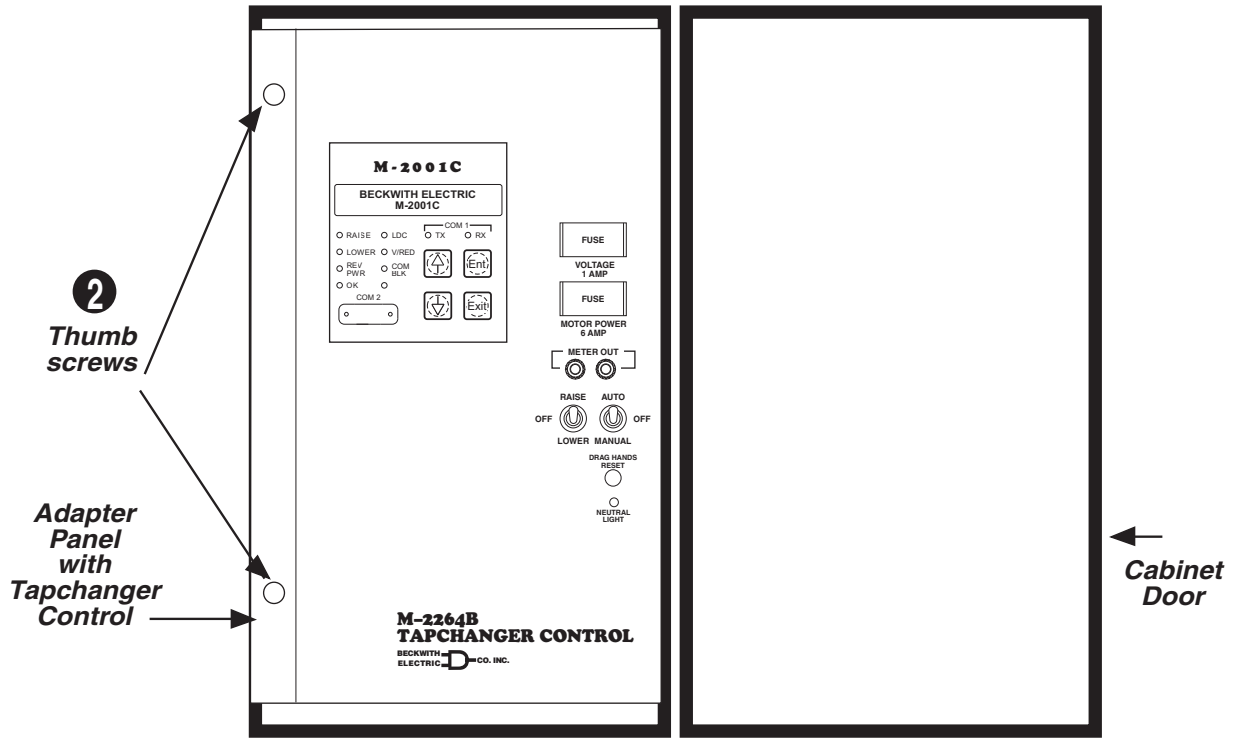

Figure 10 M-2264B Adapter Panel and M-2001 Series Tapchanger Control in Cabinet
3. Place the M-2264B panel in the enclosure and install the two thumb screws saved from the original control (Figure 10).